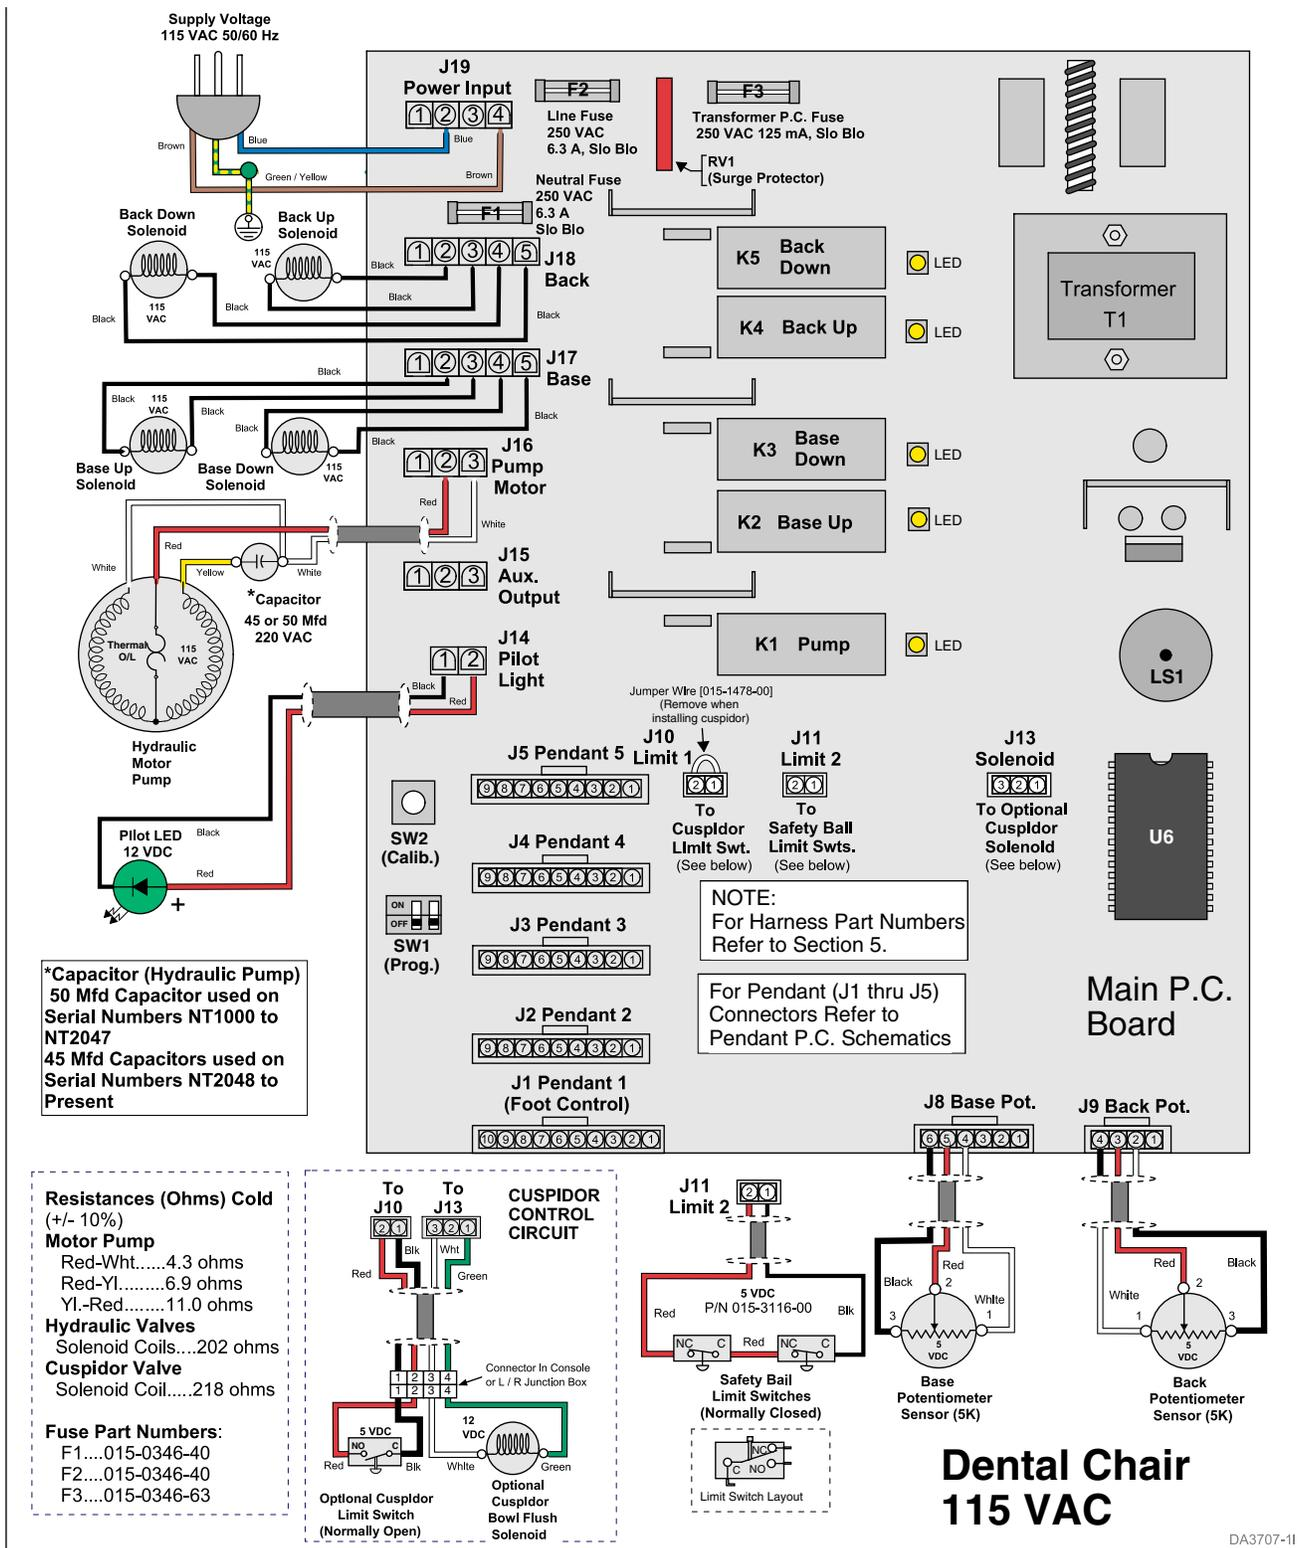

Figure 1-4. Main P.C. Board and Related Components (Current Production)
C. Theory of Operation (Refer to Figure 1-4 and Section V for wiring diagram, electrical schematics and hydraulic layouts).
Back Up Function Operation (Figure 1-4):
Back Down Function Operation (Figure 1-4):
Base Up Function Operation (Figure 1-4):
Base Down Function Operation (Figure 1-4):
Safety Bail Limit Switches (Figure 1-4):